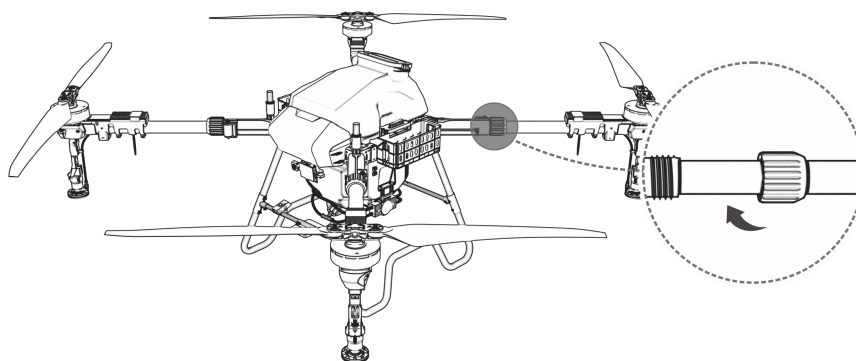

Figure 1-34 Arm Clamp
Step 4: Make sure the clamping component is tightened, as shown in Figure 1-34.